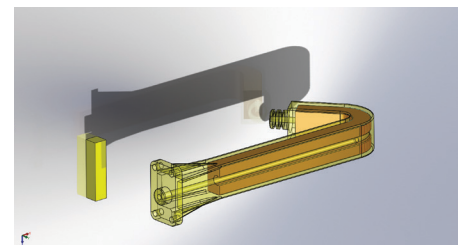

Figure 24: Region one (transparent-yellow outer area) and region two (opaque center).
2.6.1.2. Extract first region (Figure 24).